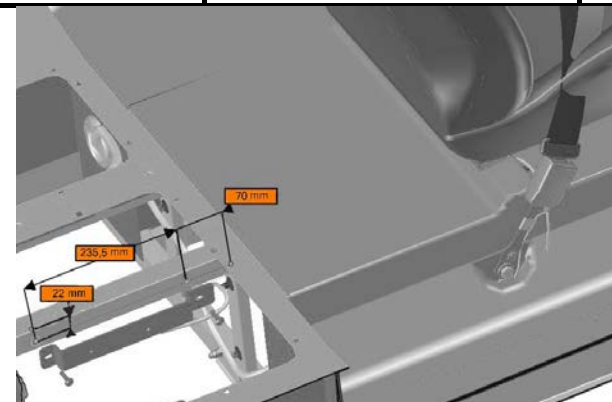

Fig.6
- Using a 9mm drill bit, drill 2 holes 235,6 mm apart. **(Fig.6)**.